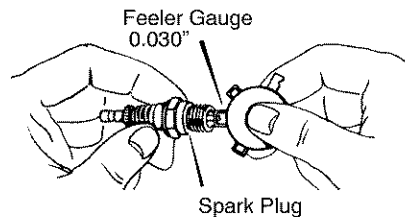

Figure 57
2. Be sure **spark plug** is clean and free of foreign material. Check electrodes gap with a wire **feeler gauge** and reset gap to 0.030" if necessary. See Figure 57.